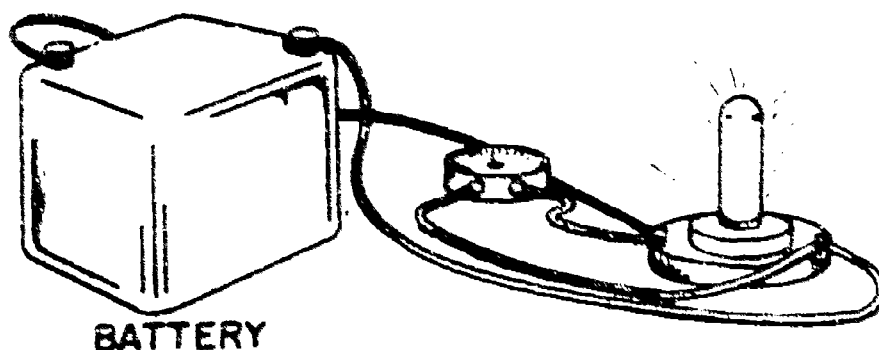

Figure 6. Voltmeter Connection
4. **Measurement of Voltage (EMF):** The instrument for measuring voltage is the **VOLTMETER**. Figure 6 illustrates the correct way of using the voltmeter to read the voltage drop of the load resistor. Note that the voltmeter is connected directly across the load - in parallel.